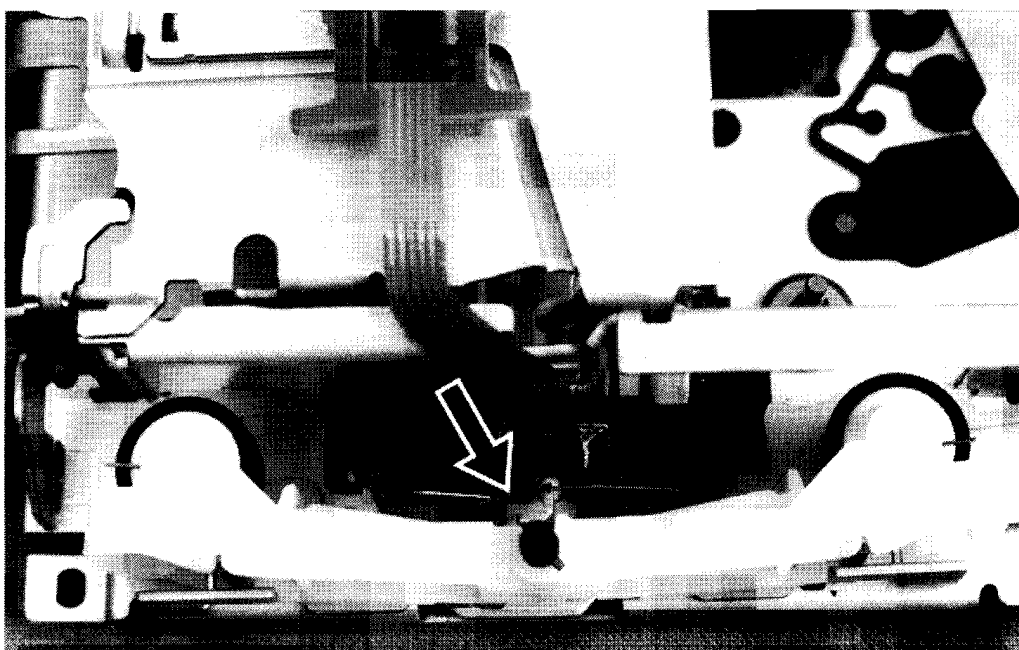

Figure 13
- Remove the holders with the pressure rollers by unclicking them from the centre pivot which is at the right side of the base plate pos. 23.
6.7 Head assy pos. 28
- Remove the spring pos. 30.
- Remove the head assy from the holder of the base plate pos. 23.
- Note: When re-assembling, take care to put the spring pos. 30 in the right position again! See figure 13.
6.8 Flywheel / gear assy (NOR) pos. 11
- Remove the belt pos. 3.
- Remove the oil protection ring pos. 7 from the capstan of flywheel pos. 11.
- Remove fixation retaining ring pos. 6.